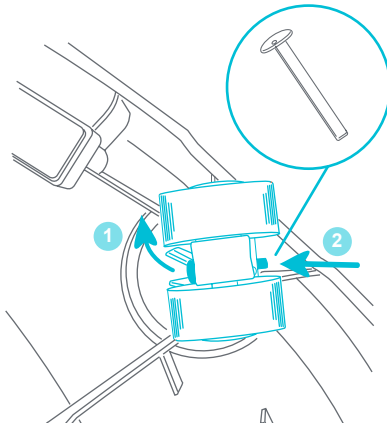

Fig. 16a
- 16** • **REMOVAL:** (1) Pull the small tab away from the pin. (2) Pull the pin out of the slots (Fig. 16a).